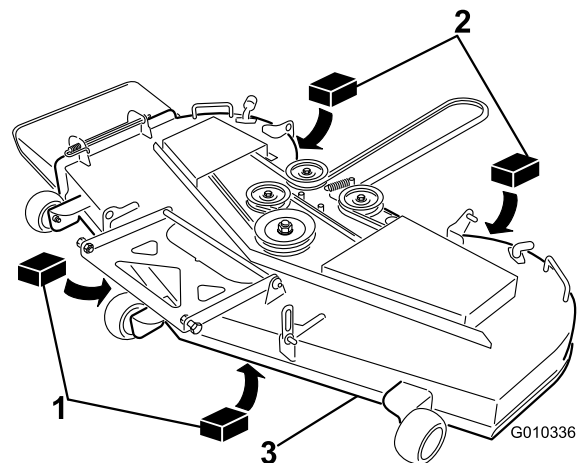

**Figure 70**
3. Carefully rotate the blades so they are facing front to rear (Figure 70).
4. Measure from the tip of the front blade to the flat surface and the tip of the rear blade to the flat surface (Figure 70). If the front blade tip is not 1/16-5/16 inch (1.6-7.9 mm) lower than the rear blade tip, continue to the Leveling the Mower Deck procedure.